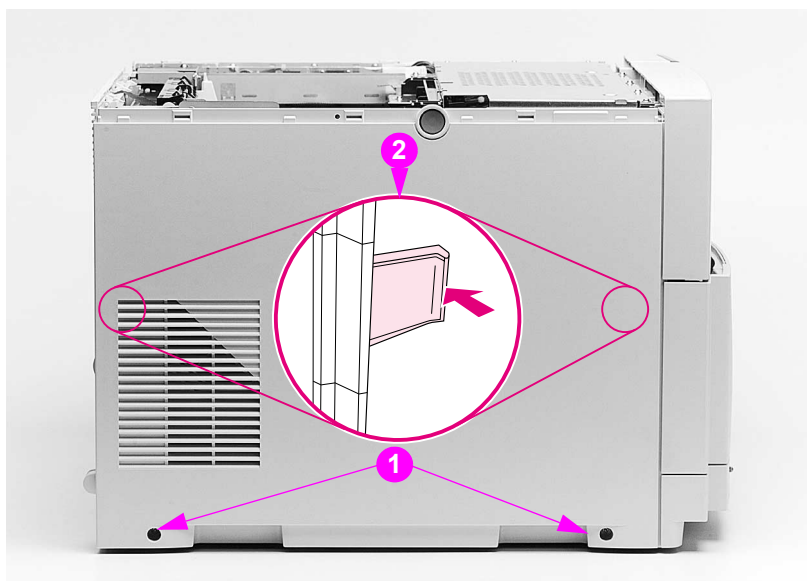

Figure 6-3 Left side cover removal and replacement
- 4 Remove the two screws as shown in callout 1 of figure 6-3.
- 5 Carefully pull out the bottom of the left cover, disengage the two tabs located behind the cover (see callout 2 of figure 6-3), and then lift the cover up and off.